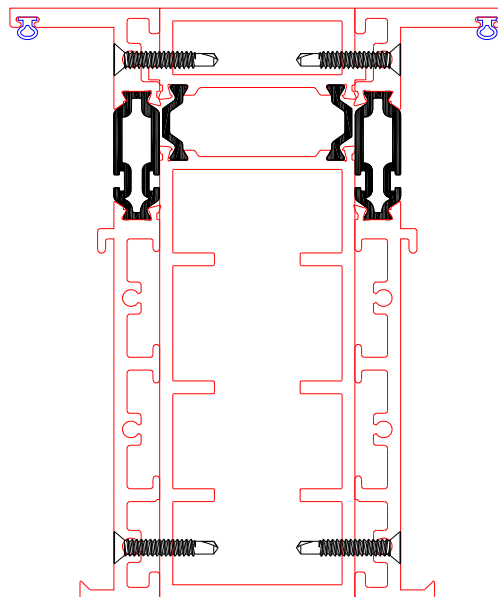

Figure D1:
1. Place the Jamb Mullion between frames as shown (Figure D1, D2).